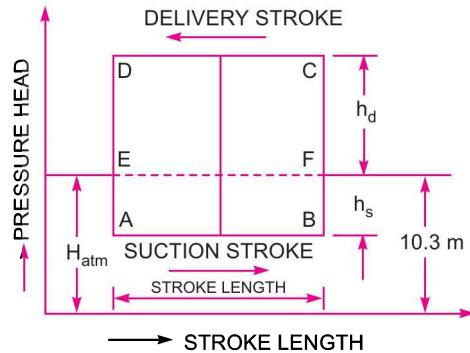

Fig. 20.4 *Ideal indicator diagram.*
**20.8.1 Ideal Indicator Diagram.** The graph between pressure head in the cylinder and stroke length of the piston for one complete revolution of the crank under ideal conditions is known as ideal indicator diagram. Fig. 20.4 shows the ideal indicator diagram, in which line  $EF$  represents the atmospheric pressure head equal to 10.3 m of water.
But from Fig. 20.4, area of indicator diagram